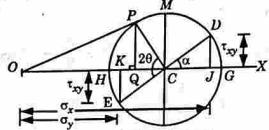

Fig. 1.41.2
- Now draw the Mohr's circle of stresses as shown in Fig. 1.41.2 and as discussed below :